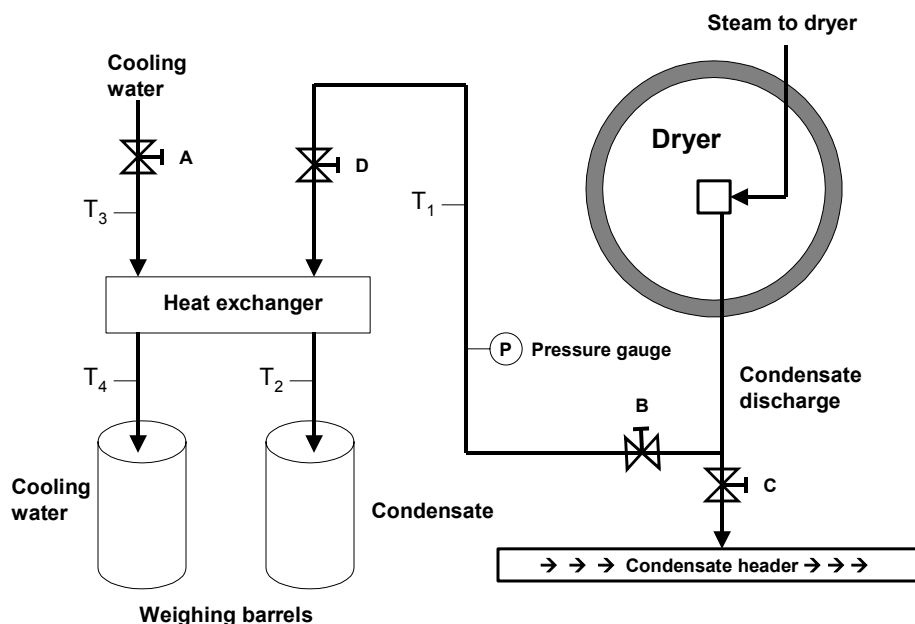

Fig. 1. Dryer condensate measuring system.
2. Connect dryer condensate line and cooling water line to heat exchanger according to schematic arrangement shown in Figure 1. CAUTION: These lines may be hot and under pressure. Avoid direct contact with hot pipes and valves. Be sure the connections are properly secured before opening valves. Vent lines before disconnecting them.